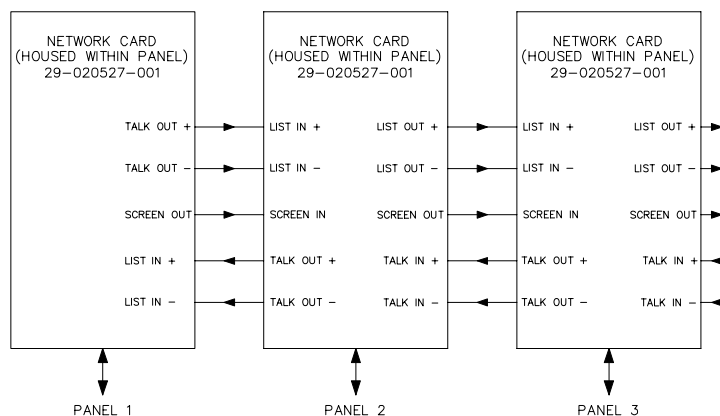

Figure 41: CZN System VegaNET Network External Wiring
5. Connect the external network transmission cables to other panels located on the network as shown in Figure 41.